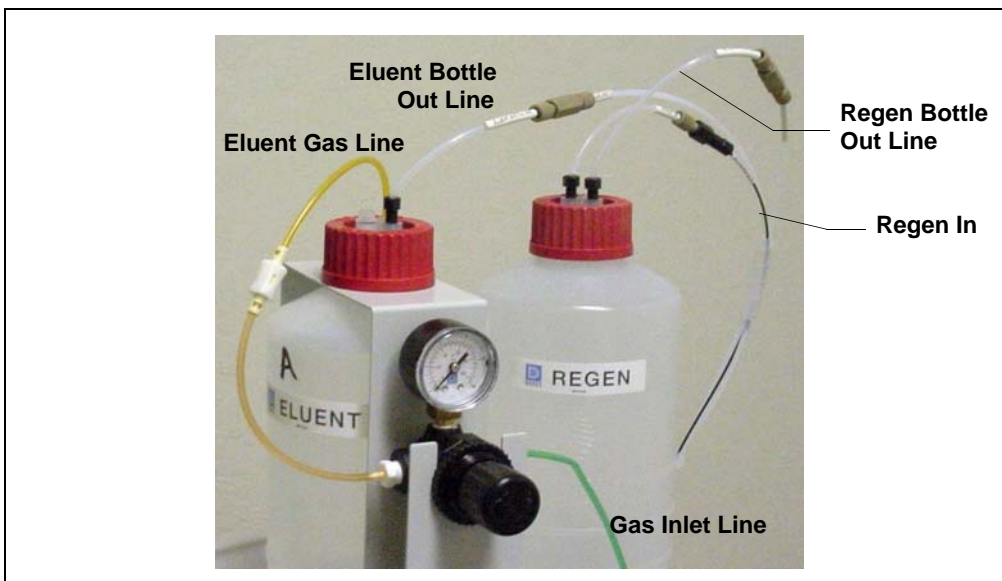

Figure 3-1. Reservoir Connections
1. Before beginning operation, verify that the clean gas supply is regulated to between 0.55 and 0.83 MPa (80 and 120 psi) and is connected to the gas inlet of the ICS-90 air regulator (see Figure 3-1).
1. Make sure the eluent and regenerant reservoirs are filled, the caps are tightly screwed onto the reservoirs, and the lines connecting the reservoirs to the ICS-90 lines are securely connected (see Figure 3-1).
2. Make sure the clean gas inlet line is regulated to between 0.55 and 0.83 MPa (80 and 120 psi), and is connected to the gas inlet of the ICS-90 air regulator (see Figure 3-1).